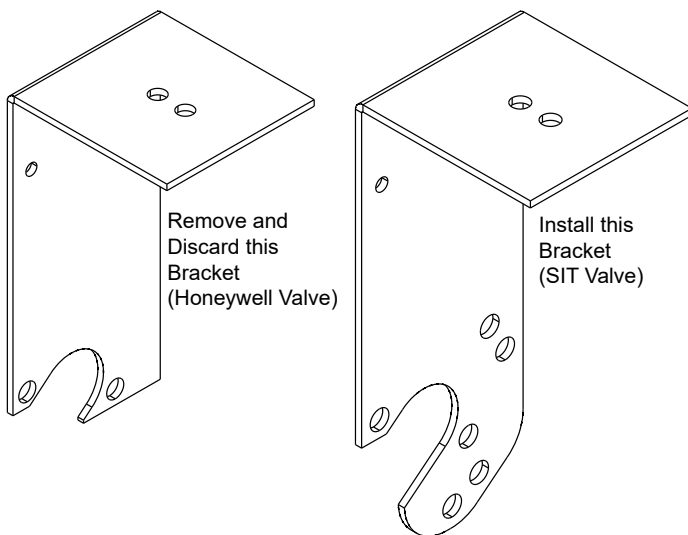

Fig. 1 Valve Bracket
2. Install new valve brackets. Refer to Figure 1 for correct bracket.